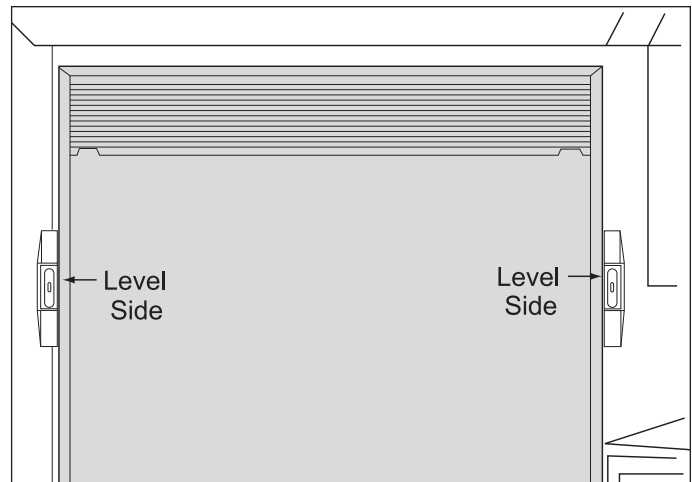

Figure 2-19.
5. Using a carpenter's level, check that each side is vertical. Shim as necessary (shims are not included). Next, secure top and bottom of each side trim to cabinetry using two 3/4" mounting screws (M). (See Figure 2-19).